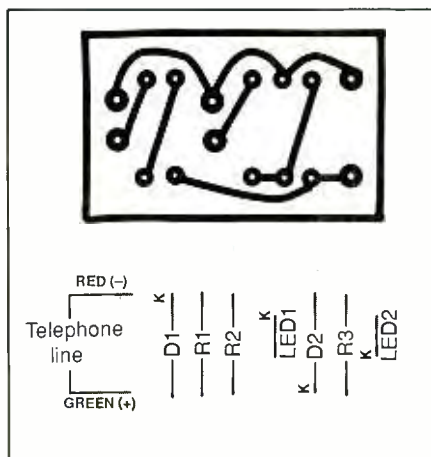

Fig. 2. Actual-size etching-and-drilling guide (A) and wiring diagram (B) for Telephone-Line Checker pc board.
An actual-size etching-and-drilling guide for the printed-circuit board for this circuit is shown in (A) in Fig. 2. The wiring guide for this board is shown in (B). Wire the board exactly as shown. Making sure to observe proper polarity, mount the LEDs and silicon diodes in their respective locations on the board. Leave about 1/4 inch of space between the bottoms of the LED cases and the surface of the board but mount the diodes flat against the board.